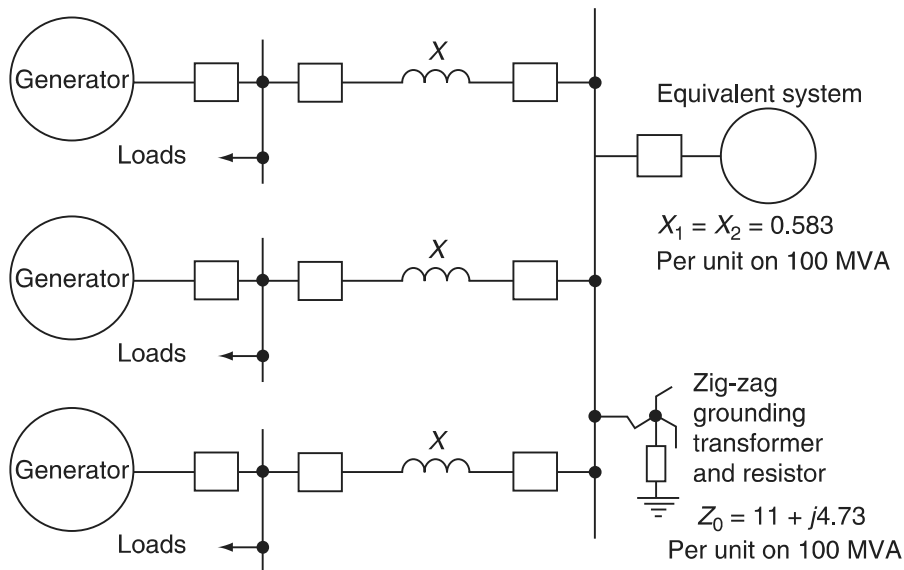

FIGURE P8.1
8.1 Three 21,875 kVA, 13.8 kV generators with $X_d'' = 13.9\%$ are connected to individual buses, from which various loads are supplied. These buses are connected to another bus through 0.25Ω reactors as shown in Figure P8.1. The generators are all ungrounded. In this system: